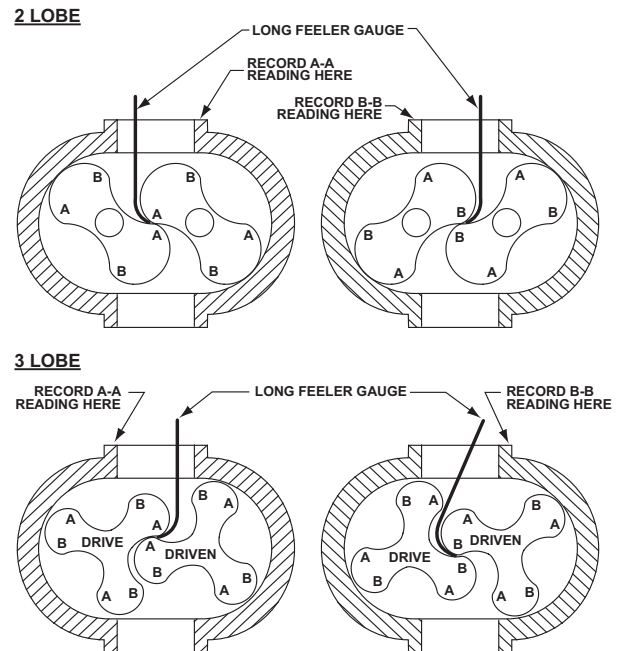

Figure 8-2 – Checking Rotor Interlobe Clearance
1. Make sure all parts are clean and free of nicks or burrs caused by disassembly. **See Figure 8-2 on page 36** for dimension of seal pressing tools.
Use feeler gauges to check the clearance at AA (right-hand reading) and BB (left-hand reading) (see **Figure 8-2**). The clearances should be adjusted so they are as equal between all lobes as possible, usually between 0.003 to 0.004 in. (0.076 to 0.10 mm). For best results, use feeler gauges no larger than 0.006 in. (0.15 mm).